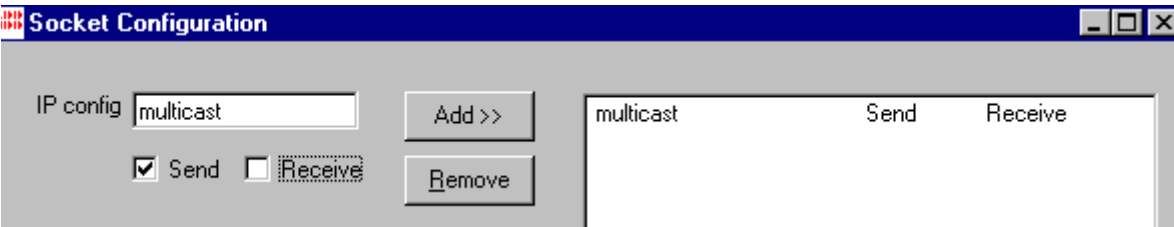

Figure 446. Modifying the Default Entry
- b. Remove the check from the **Receive** box, Figure 446, then click **Add**.